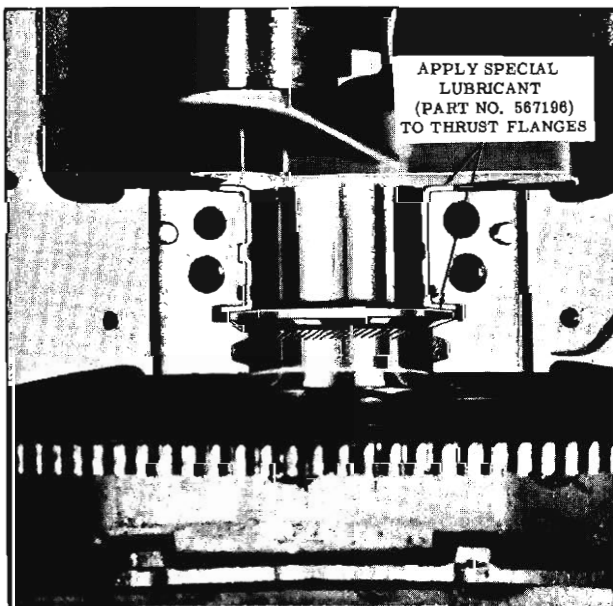

Fig. 3-33 Rear Main Bearing
5. No. 5 bearing - apply Special Lubricant, Part No. 567196 to the thrust flanges of bearing shells. (Fig. 3-33)